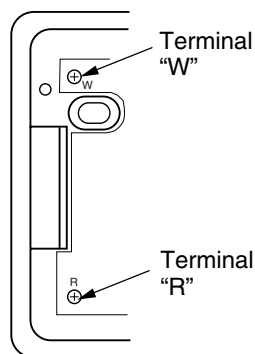

Figure 35 - Thermostat Base Terminal "W" and "R"
- Connect one bare wire end to each terminal ("W" and "R") of the thermostat base (see Figure 35).